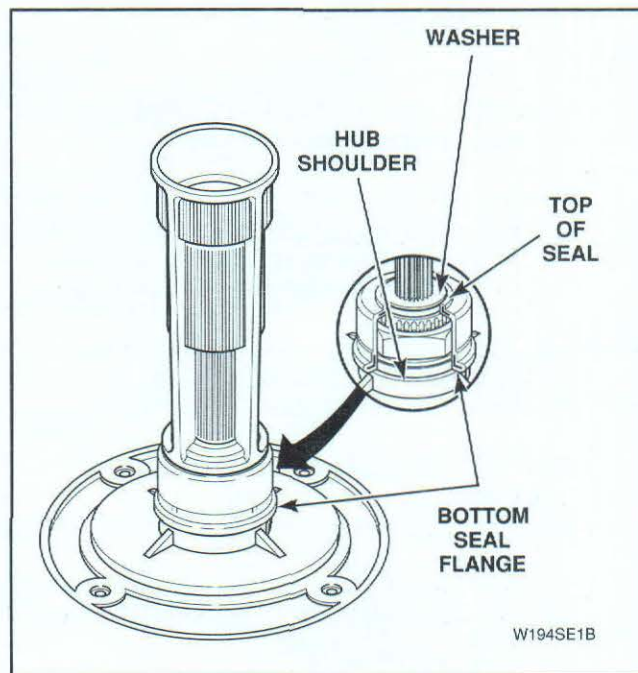

Figure 47
- l. Turn seal tool upside-down and place small end over output shaft and onto washer, *Figure 47*.
- m. Push down on tool with a quick motion until tool bottoms out and top of seal is fully seated, *Figure 47*.